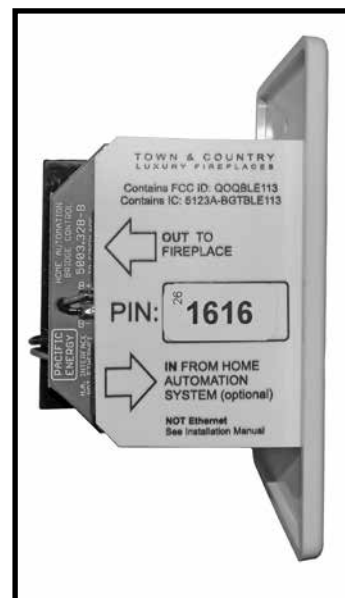

Figure 28: Wall switch with PIN number.
4. Find the PIN number located on a sticker on the wall switch (Figure 28).